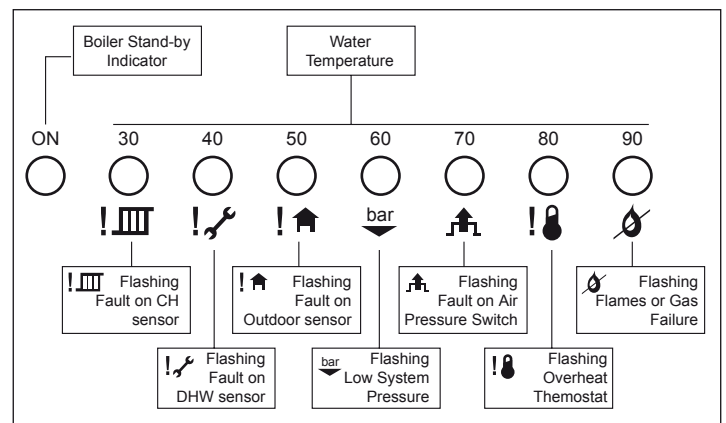

*Figure 13.1*
**13.2** Re-set function: Should the boiler lock out at any time, please check the gas supply and ionisation probe position, the boiler may be re-started by switching to standby "0" position (Switch 2 *Figure 13.1*) waiting 15-30 seconds and switching back to its previous position once the fault has been eliminated.